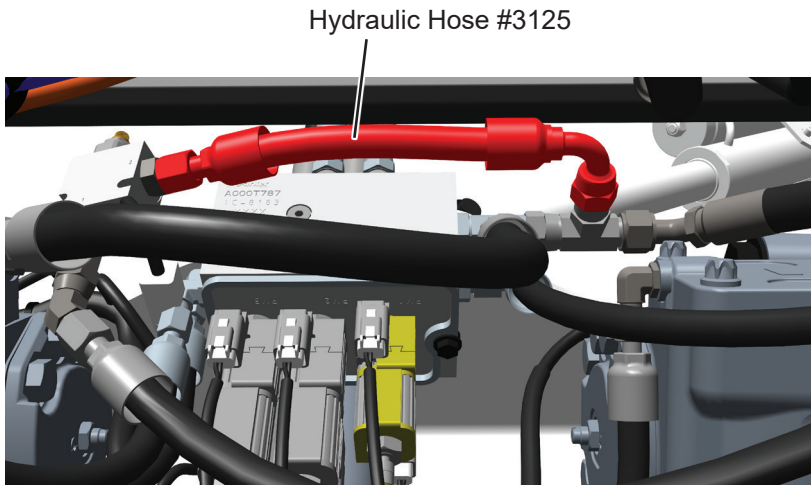

Figure 2. Chute Manifold Hose Removal
4. Disconnect and remove hydraulic hose #3125 between outer T-fitting and steering manifold. See Figure 2. Hydraulic hose will not be reused.